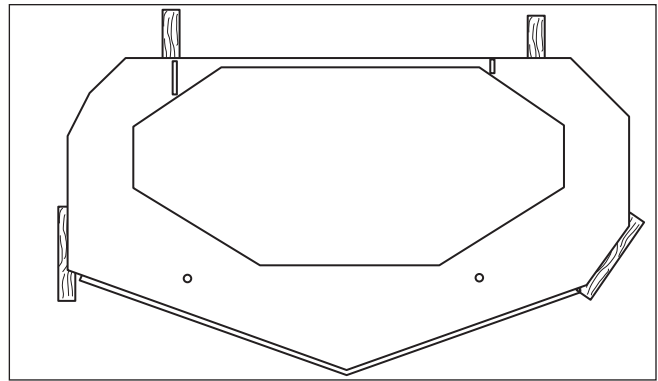

Figure 45. 2 x 4 Locations
3. Place 2 x 4 blocks under each corner of the mower deck with the 3-1/2" sides being vertical. See Figure 45.